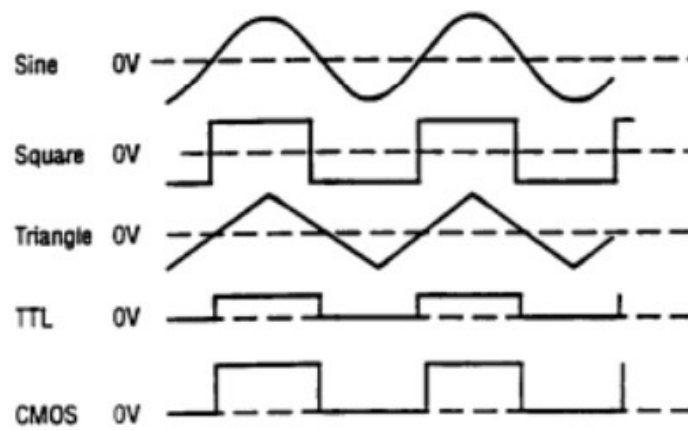

Figure 2. Output Waveform and Phase Relationship
1. Initially, verify that the DUTY CYCLE (17), CMOS LEVEL (15), DC OFFSET (14), -20 dB (11), and SWEEP INT/EXT (12) switches are in the OUT position (released). This will produce a symmetrical waveform unaffected by the sweep generator and other controls.
2. Plug the unit into an appropriate power source and turn it on by engaging the POWER switch (1).
3. Select the desired waveform (SINE, SQUARE, or TRIANGLE) by engaging one of the FUNCTION switches (3). Phase relationships of the waveforms are shown in Fig. 2.
4. Select the frequency of the waveform by depressing one of the RANGE switches (2). The output frequency is displayed, along with the appropriate measurement units, KHz or Hz (23), on the LED display.
5. Rotate the COARSE (20) frequency control to quickly set the output frequency to the approximate desired value. The FINE (19) frequency control can then be used to easily set the output to the specific desired value. The frequency selected is available at the OUTPUT jack (6). In addition, a digital signal, either TTL or CMOS is available at the TTL/CMOS jack (7) (refer to the "TTL/CMOS OUTPUT" section of this manual).